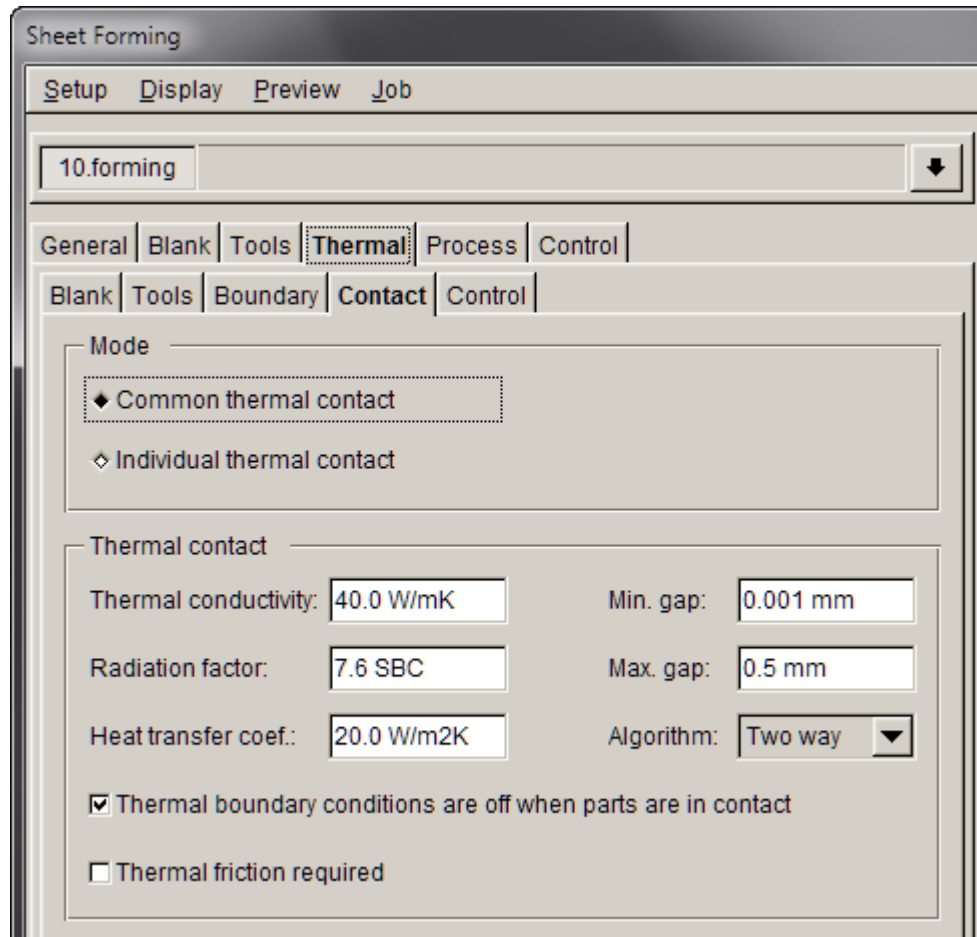

Figure 45
7. The definition is shown in Figure 45.